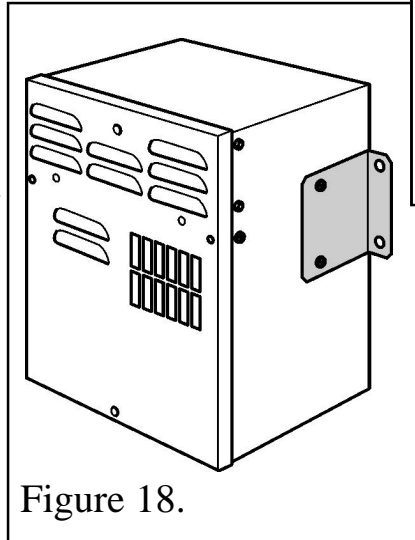

Figure 18.
3. If the fan box is to be sited totally outside the wall fit the brackets with the short flanges flush with the air intake end of the fan box (See figure 18).